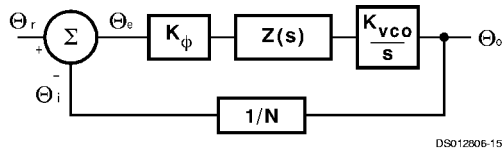

FIGURE 2. PLL Linear Model
A linear control system model of the phase feedback for a PLL in the locked state is shown in *Figure 2*. The open loop gain is the product of the phase comparator gain (K_ϕ), the VCO gain (K_{VCO}/s), and the loop filter gain $Z(s)$ divided by the gain of the feedback counter modulus (N). The passive loop filter configuration used is displayed in *Figure 3*, while the complex impedance of the filter is given in *Equation (1)*.